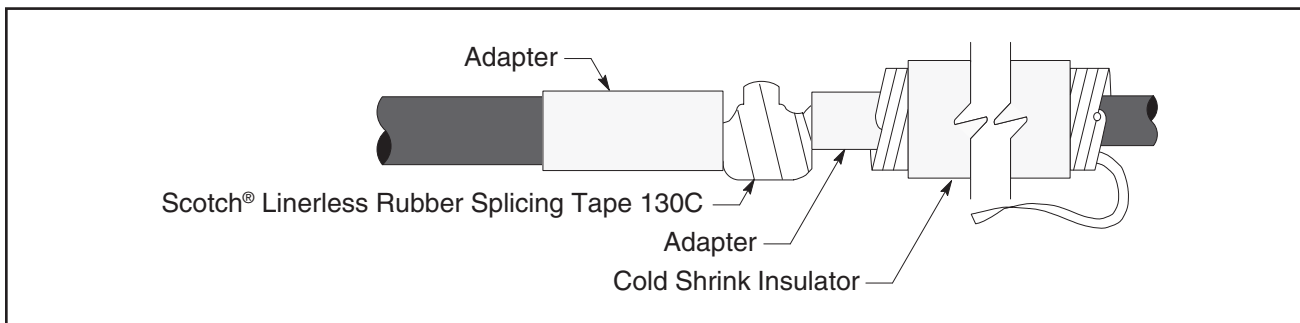

Figure 5
- 3.6 Slide adapters toward the bolt(s) as far as possible (*Figure 5*).